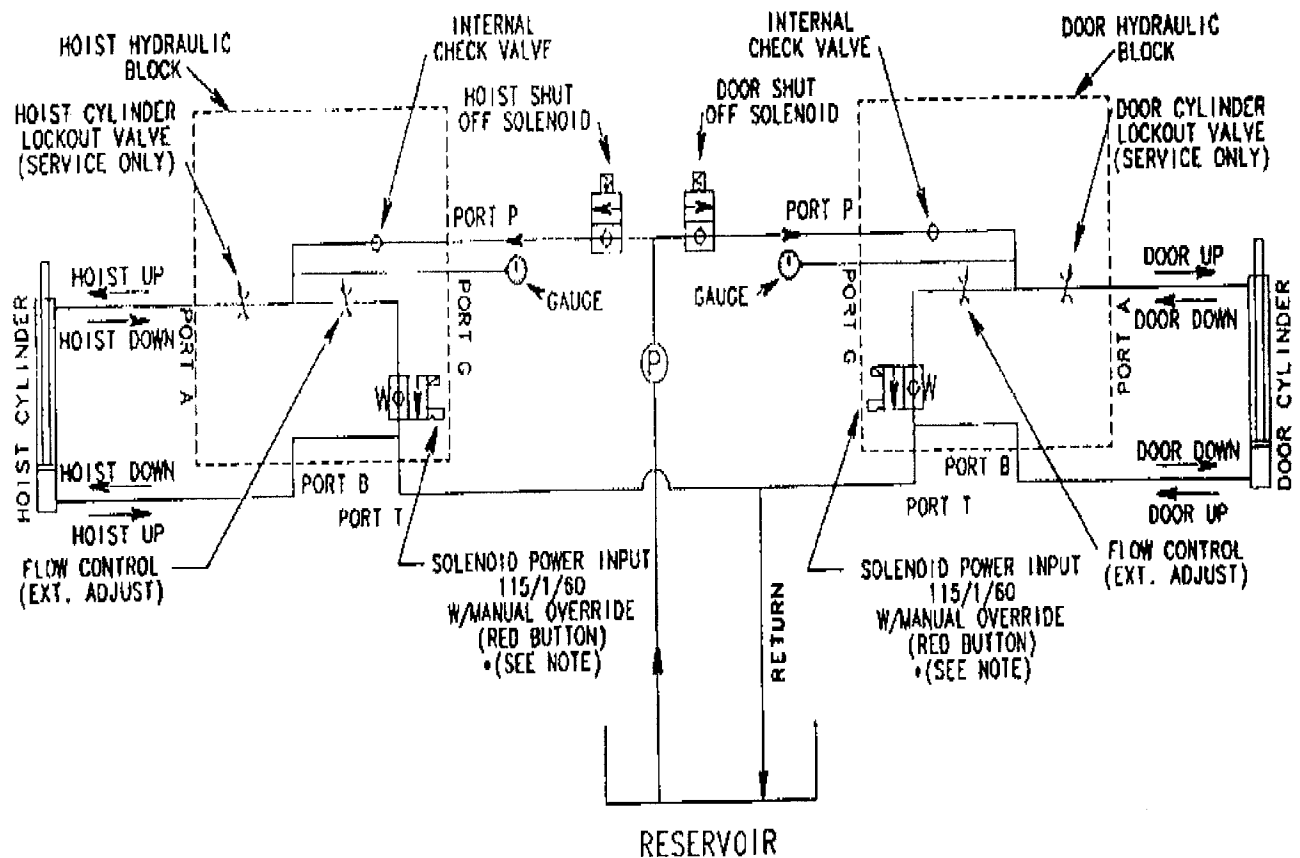

Figure 3-40 Hydraulic Block Schematic(Shown with Hydraulic Door)
1. Position the pump mounting bracket on the vertical bin brace closest to the front of the hydraulic cylinder. The bracket is typically located on the lower bin structure. Refer to Figure 3-39 and Figure 3-40.